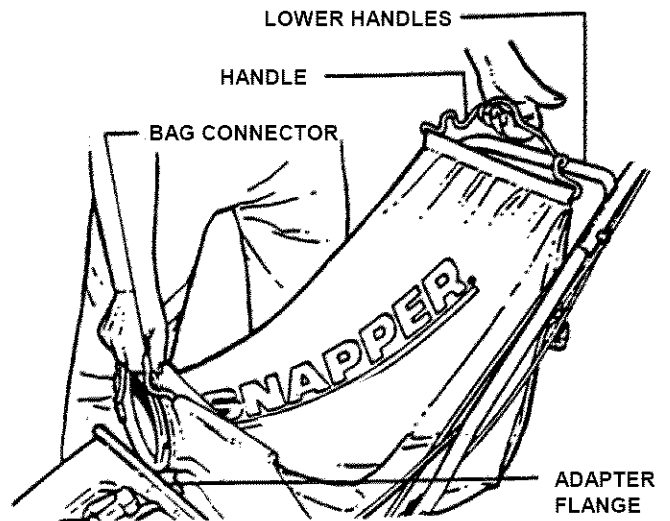
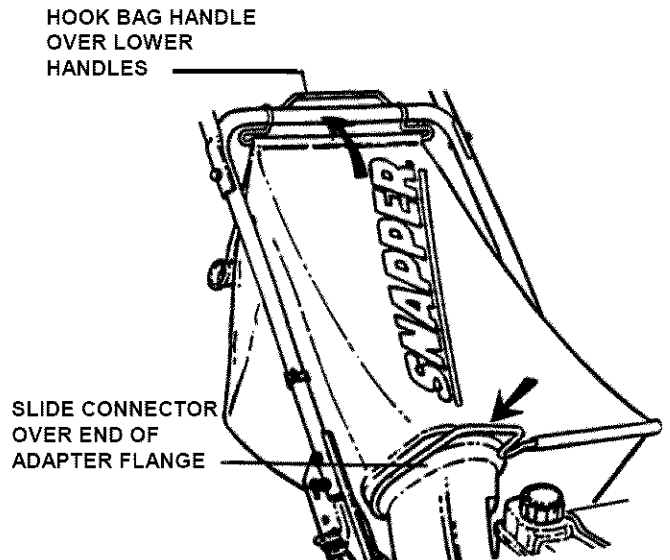

FIGURE 2.10
FIGURE 2.11
B. Position grass bag between handles. See Figure 2.10. Install grass bag by sliding connector over flange of adapter. Attach grass bag hooks over middle handle cross bar. See Figure 2.11.